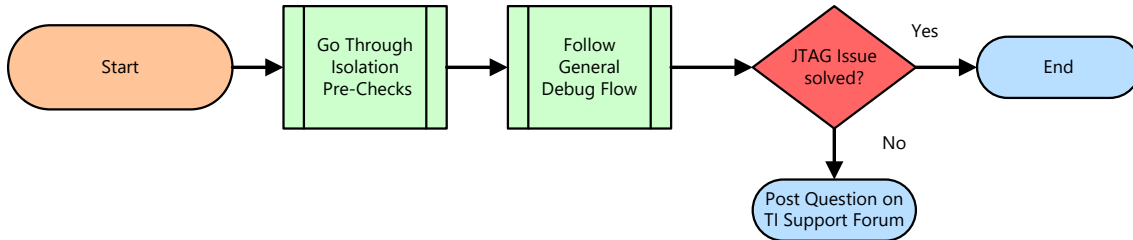
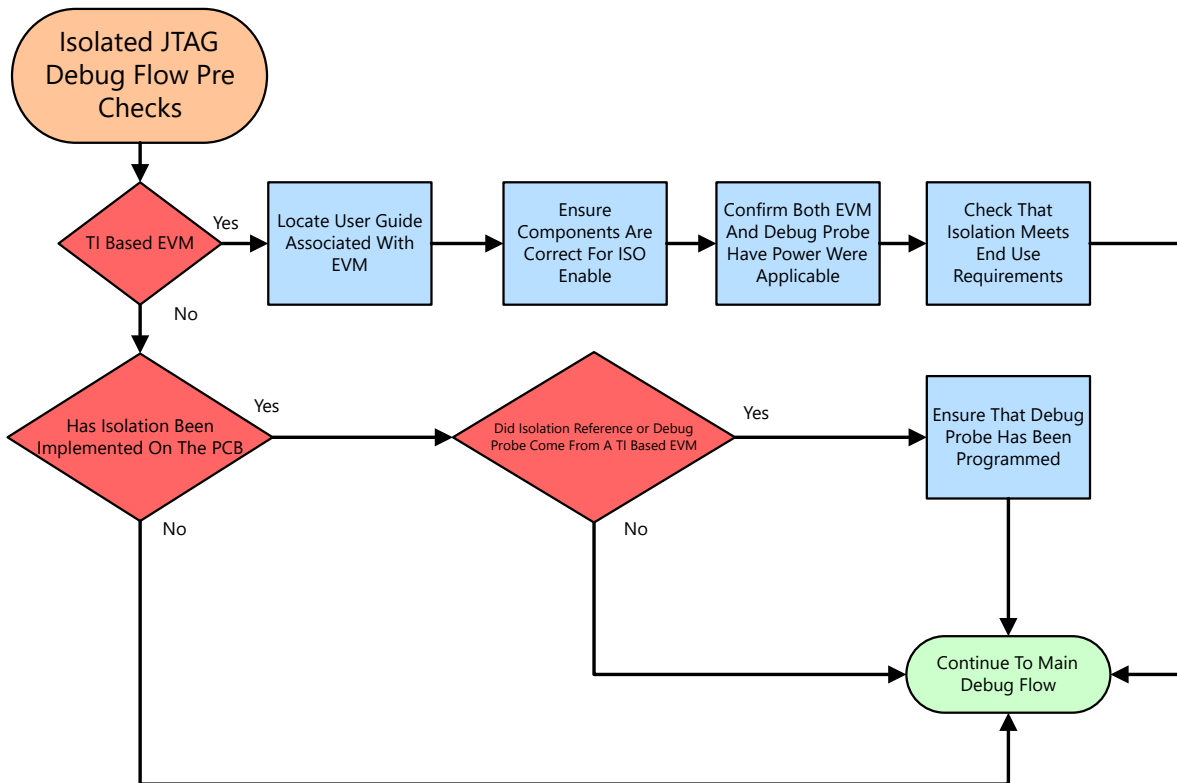
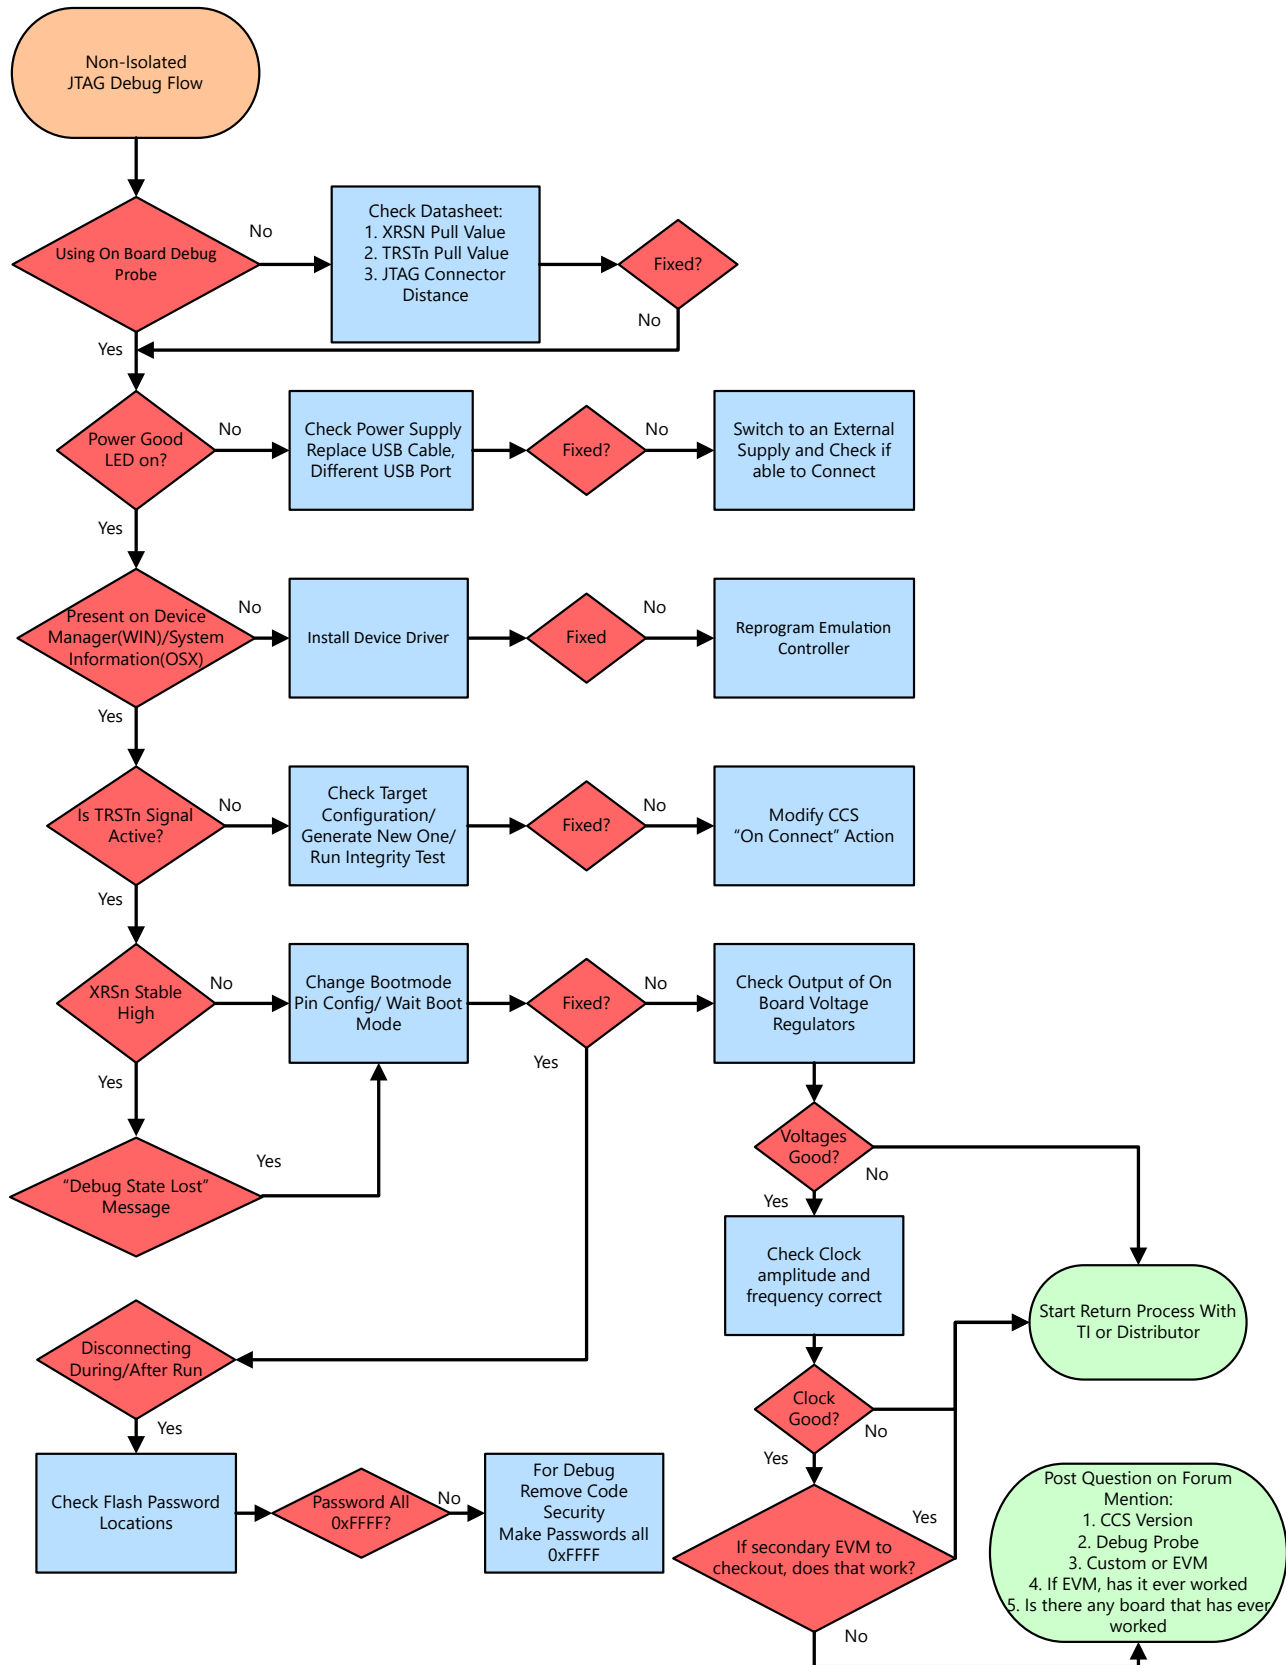

Figure 6-1. Overall Debug Flow
Figure 6-2. JTAG Isolation Pre-Checks
Figure 6-3. JTAG Debug Flow
1. Review the steps in Figure 6-1 and go through the High-Voltage Isolation Flow first. This is important even if isolation is not a main concern, since isolation can have an impact on the emulation aspect of the PCB.
Many C2000 applications are high power in nature. Because of this, isolate the power plane of the target board from the host computer while debugging. Many TI manufactured boards have isolated emulation, or can be enabled using onboard options. Figure 6-2 shows the flow chart to help identify whether isolated JTAG is present, and if so, troubleshoot common issues in these systems. There are also standalone debug probes that provide isolation as well; this flow does not pertain to those probes.
Beginning with the Overall Debug Flow (Figure 6-1), decide if the High Voltage Isolation Check Flow (Figure 6-2) is needed or not. Once complete, go through the Main JTAG Debug Flow (Figure 6-3) step by step.